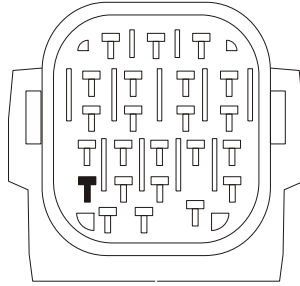

Figure 3
- Locate the 23 pin connector near the shift mechanism on the driver's side of the transmission. Solder and seal the long blue wire from the throttle control to the yellow wire with the dark blue stripe on this connector (Figure 3).